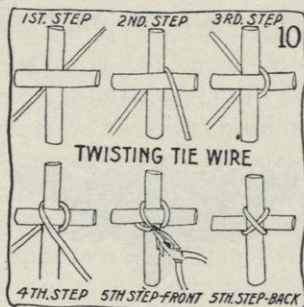

FIG. 10.
- e. Tie edgewire to brace wires with tie wire (see Figures 10 and 11). You tie the edgewire in place so that you can see the line of the frame easily.
- (1) Twist the wire over the brace and round the wires, as if you were making a cross stitch at that point (see Figure 10 for five steps in twisting tie wire and both front and back view of the fifth step).
- b. Attach extra round wires to the brace wires, particularly where you want to keep a special line, by cross stitching with tie wire, as shown in Figure 10, page 111.